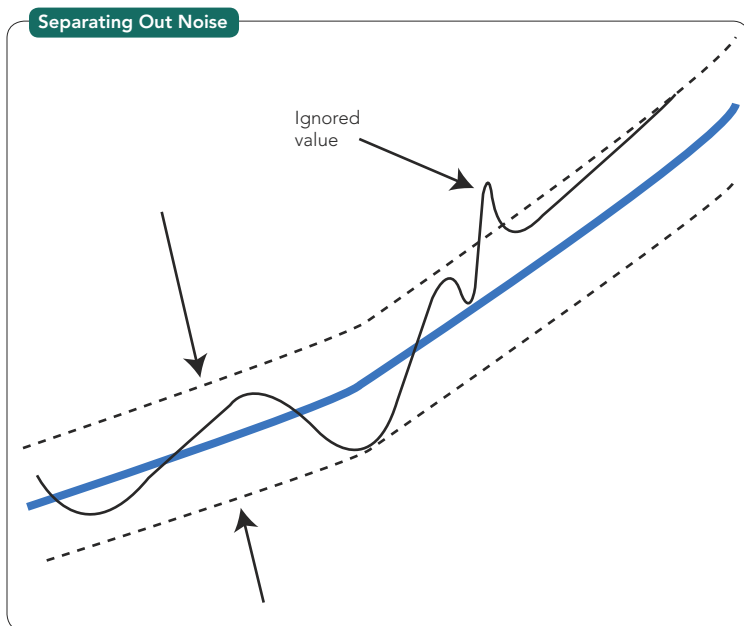

Figure 4. Digital signal processor computes moving average of signal and ignores values outside of the defined window.
- *Moving average.* The user defines a band of measurement values. The DSP maintains a moving average of the incoming data values over a selectable window size. Values that fall outside the band are ignored and replaced by the average value (Figure 4). The instrument registers the number of error measurements. If the error total exceeds 50% of the window size, the measurement value is held. If the hold time setting is surpassed, the procedure resets, a new average value is calculated, and the window shifts accordingly.